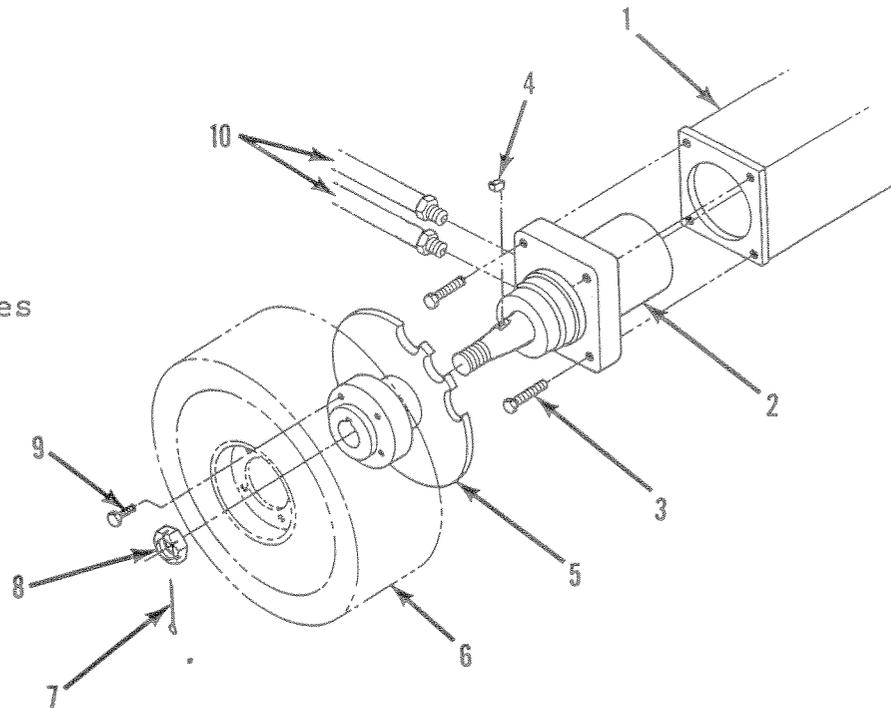

Figure 5-10. Drive Motor Removal
5-19. HYDRAULIC DRIVE MOTORS AND HUBS (Figure 5-10).
(1) Back up rear axle and block the wheels to prevent the work platform from rolling when the brake is removed.
(2) Disconnect motor tube assemblies (10, Figure 5-10) and plug.
(3) Remove the capscrews (3, Figure 5-10) and remove motor, hub and wheel assembly as a unit from rear axle.
(4) Disconnect the tube assemblies (1,17) and cap the openings to prevent foreign material from entering.
(5) Remove the capscrews (2), flatwasher (3) and locknuts (11) to remove the cylinder (4) from the rear axle.
(1) Install the piston seal (13) on the piston (12) then assemble the static seal (14), shaft (11) and piston (12).
(2) Position the spring (15) and stop tube (16) on the shaft assembly.
(3) Lubricate the piston seal (13) with clean hydraulic fluid, then install the shaft assembly in the cylinder barrel (4).
(4) Lubricate the seals (7,8) with clean hydraulic fluid and install on the head cap (6).
(5) Install the shaft seal (10) and wiper (9) within the head cap (6).
(6) Lubricate entire assembly's seals (7,8) and the shaft seal and wiper (10,9) with clean hydraulic fluid then install the head cap (6) onto the shaft (11) and into the cylinder barrel (4).
(7) Secure with snap ring (5).
(8) Position the brake cylinder assembly on the rear axle so that the shaft (11) will fully engage the brake disc, however the shaft must clear the brake disc once retracted. Secure with capscrews (2), flatwashers (3) and locknuts (18).
(9) Connect the tube assemblies (1,17).
(10) Place wheel hub and motor assembly in axle and attach with capscrews (3, Figure 5-10).
(11) Connect motor tube assemblies (10, Figure 5-10).
(12) Operate the brake retract circuit and check that the shaft clears the brake disc. Check for leaks.